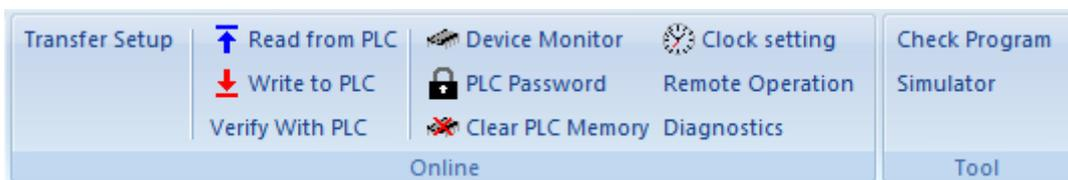

Figure 5-7
6) If successfully connect with PLC, users can check PLC information by click [Device Info], as Figure 5-7 shows, the version also can be check by D8001 and D8101.